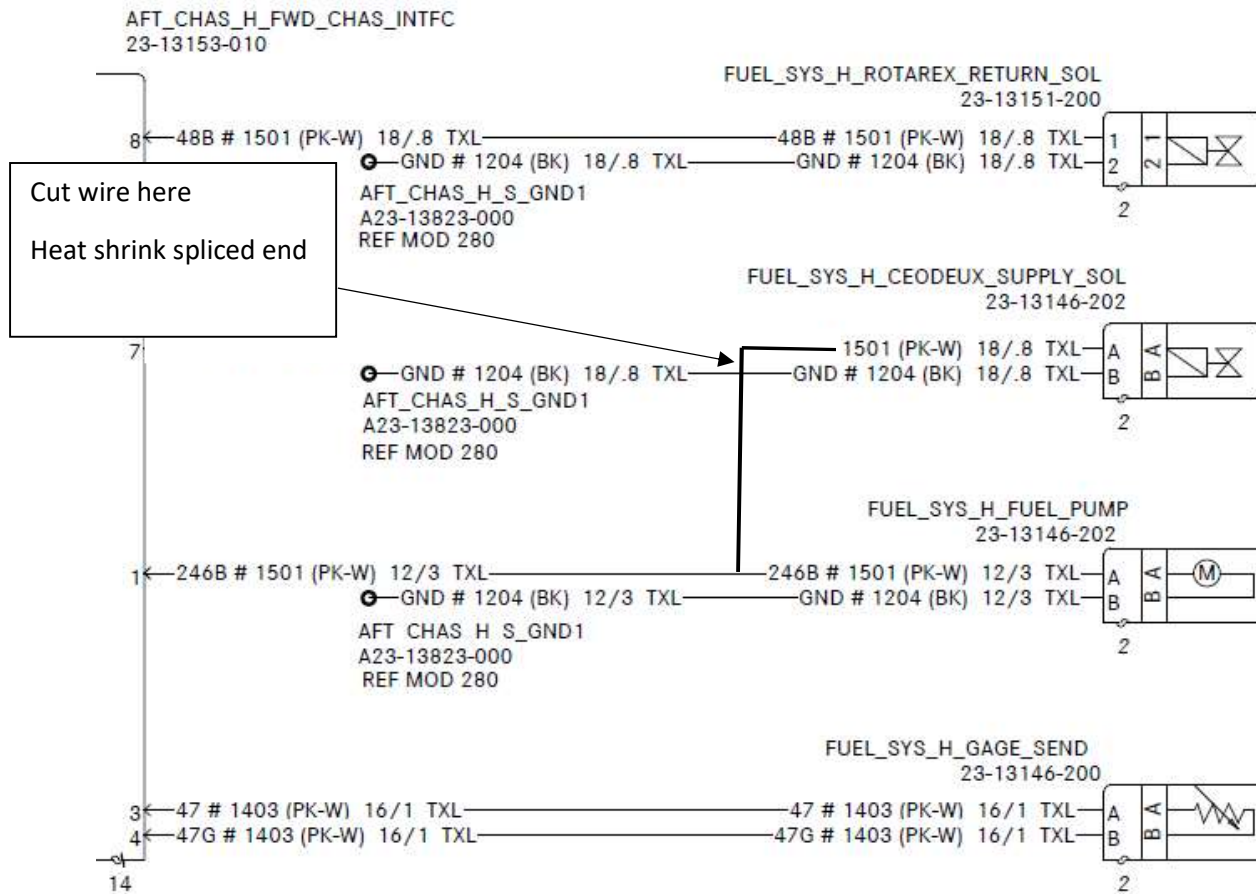

Figure 3
8. Cut circuit branch 246B from splice to Supply Solenoid and heat shrink exposed end of circuit. Fold back into harness. See Figure 3